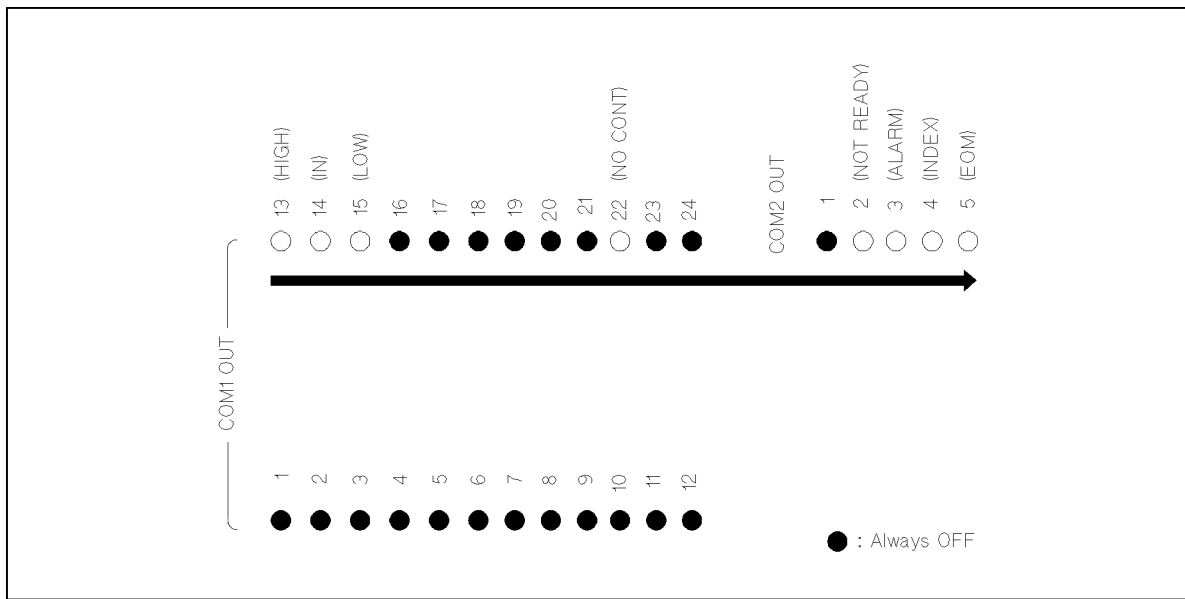

Figure 9-12. Handler Interface Output Order
14. Confirm that the LEDs on the Handler Interface Tester light in the order shown in Figure 9-12, in accordance with the 4339B display.